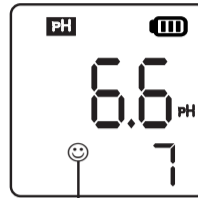

Figure 1
5. Dip the probe in pH 7.00 buffer solution, stir gently, and allow it to stand still in the buffer solution until a stable reading is reached. When measurement stability icon (☺) appears and remains on the screen (see Fig 1); then short press CAL/ \leftarrow key to complete the one-point calibration. The tester returns to measurement mode and indication icon "M" will appear at the bottom left of the screen, indicating the middle point of calibration has been completed.